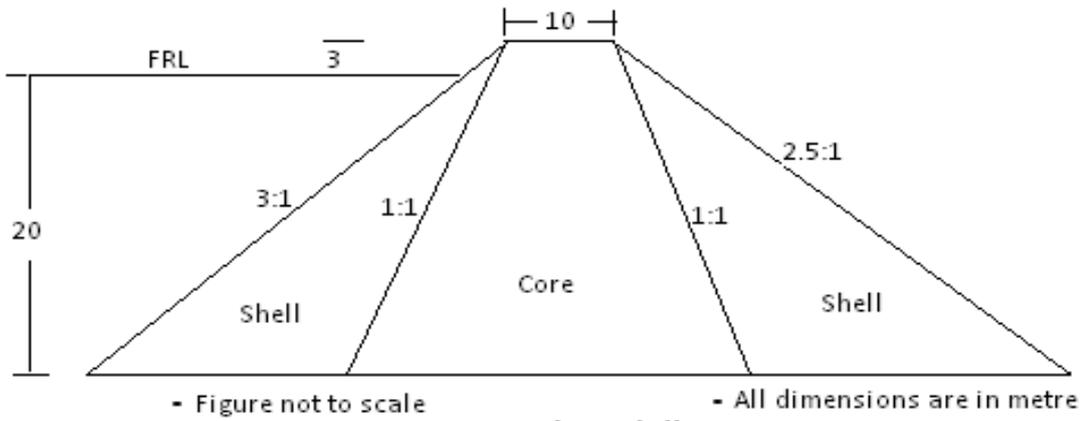

Fig. 1 (Q. 2 (a))
- Q.2 (a)** Determine the ordinates of the seepage line through the dam section, as shown in Fig. 1, using Casagrande method. Assume that the outer shell is made of pervious material while the central core section is made of relatively impervious material having coefficient of permeability 2.1×10^{-5} m/sec. Draw the correct nature of the seepage line applying ingress and egress corrections. Take the ratio $\Delta a / (a + \Delta a) = 0.34$. Also, work out the seepage discharge per 100 m length of the dam when reservoir is full. **07**